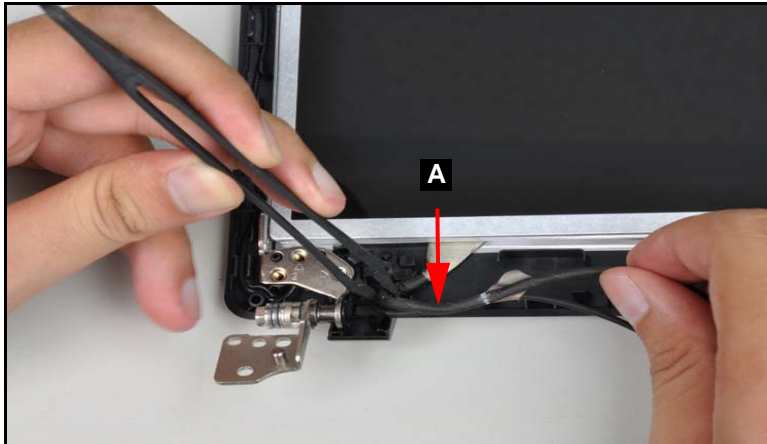

Figure 3-47. Camera Disconnect
1. Remove the LCD cable (A) (Figure 3-47).
- 3. Connect the camera cable (A) to the camera connector (B). Refer to Figure 3-47.